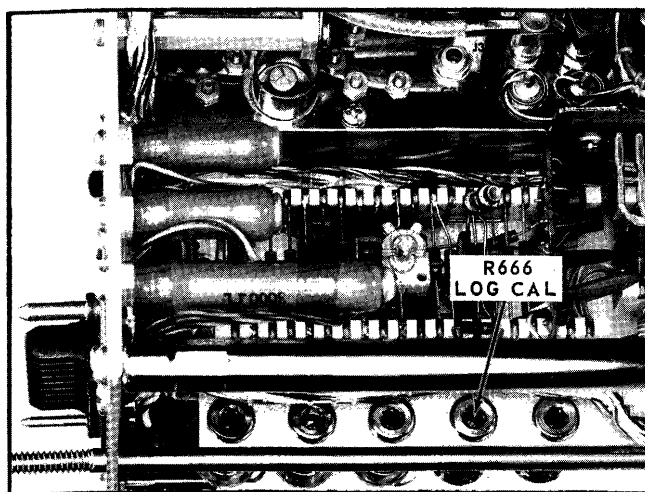

Fig. 6-22. Location of Log Cal Adjustment R666 (Step 14).
- h. Set the generator RF ATTEN to -60 dBm and set the Log Cal adjust R666 (see Fig. 6-22) for a 6 centimeter signal.